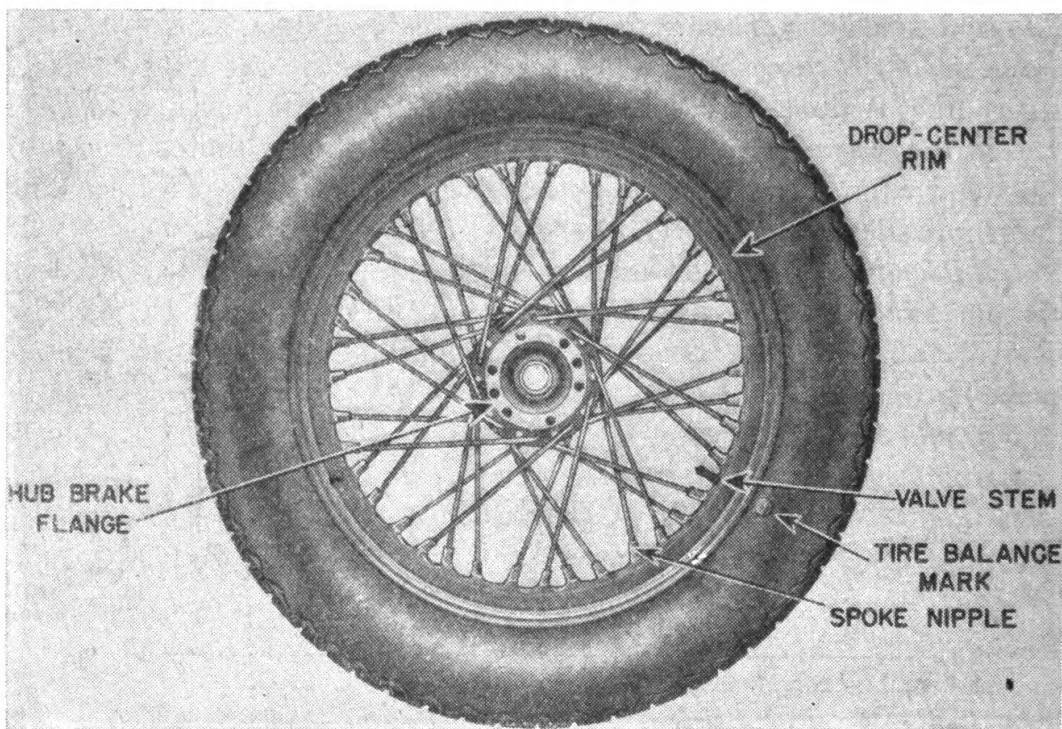

FIGURE 19.—Typical motorcycle wheel with brake assembly removed.
**35. Wheels.**—A motorcycle wheel assembly consists of a tire, a rim, spokes, nipples, and hub. Figure 19 shows a typical wire-spoke